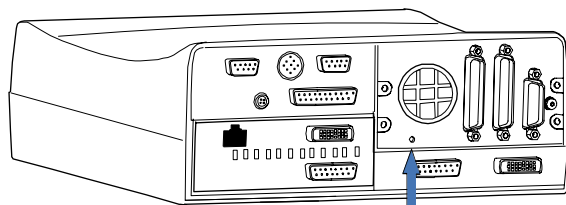

Figure 15 Service reset button
1. Make sure that the power is turned off the Monitor and unplug the power cord. Press and hold the service reset button on the rear panel of the F-CPU for at least five seconds or until an audible tone is heard (see Figure 15).